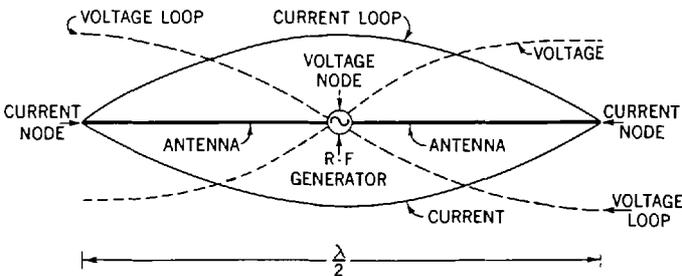

Fig. 37-5. Diagram showing standing current and voltage waves on a half-wavelength doublet antenna.
In Figure 37-5, we show a common type of antenna, called a *doublet*, or *dipole*. It consists of an elevated, straight piece of wire, with the radio-frequency generator (the transmitter) attached to the center. Since the flow of electrons (current) must cease at the ends of the antenna, we can readily see that our standing current wave must end in nodes.
we must also have voltage loops at these points. We may see by inspection, then, that the shortest length we can make our doublet antenna is a half-wavelength (Fig. 37-5).
**Antenna Impedance and Radiation Resistance.** From our study of the characteristics of alternating-current circuits, we saw that the impedance ( $Z$ ) was obtained by dividing the voltage ( $E$ ) by the current ( $I$ ). At the ends of our half-wave Hertz antenna (Fig. 37-5), we find a maximum voltage and a current that is nearly zero. Thus, the impedances at these points are relatively great. At the center of the antenna, however, the current is at its maximum, and the voltage approaches zero. Thus, we have a point of low impedance. The impedances along the antenna vary from the maximum at the ends to nearly zero at the center.
If we consider the half-wave doublet antenna of Figure 37-5, the transmission line may be merely an extension of the wires connecting the radio-frequency generator to the antenna (Fig. 37-12).
Figure 37-13A shows how this is done. Here we have taken our half-wave doublet antenna of Figure 37-5 and doubled it back on itself. For the sake of simplicity, we have omitted the voltage wave and half the current wave.